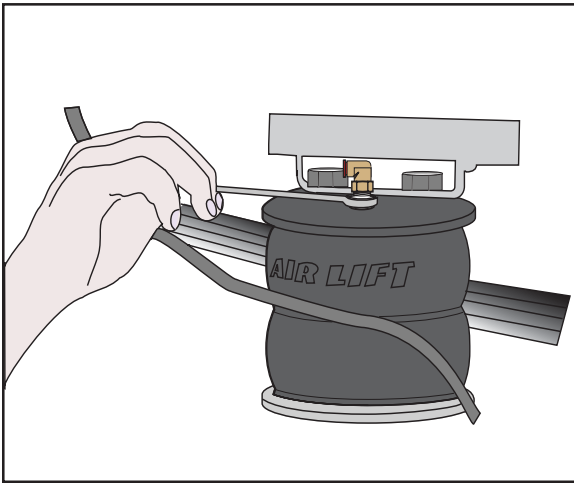

Figure 17
Install the swivel air fitting (T) into the top of the air spring (A). This fitting is pre-coated with sealant. Fingertight plus two full turns with an open-end wrench will seal the fitting (Fig. 17).